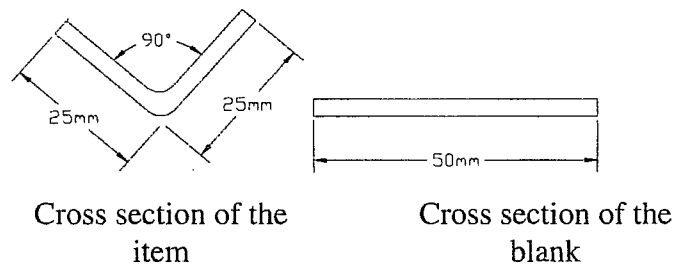

Figure Q4
- (ii) Make a sketch of a simple press tool set layout for producing the component of which the cross section is given in Figure Q4, using the given blank. Assume that the length of the component is 30 mm.